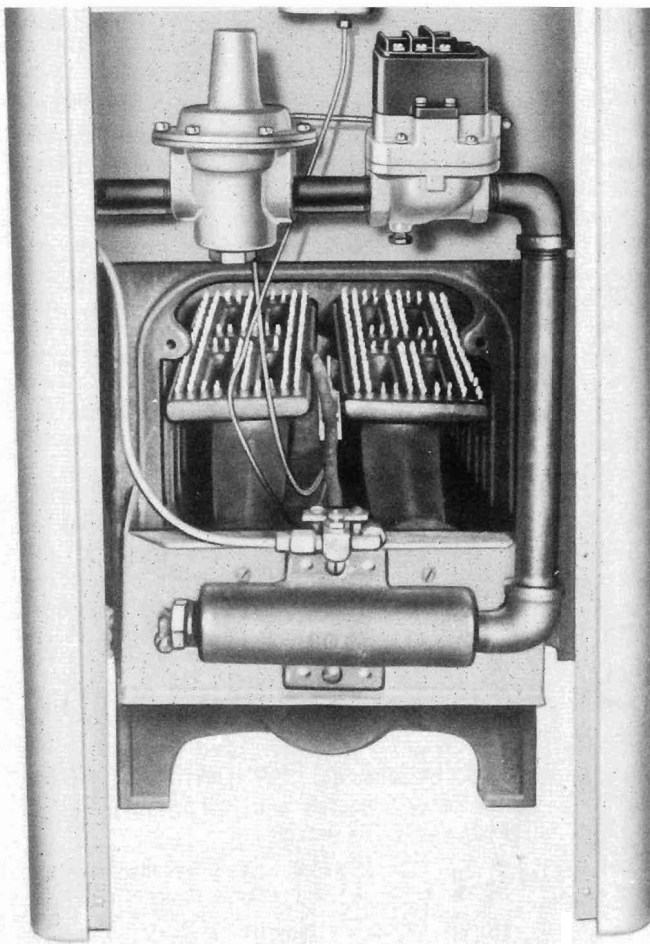

Figure 7. Burner Assembly Installed
17. Then mount complete burner assembly into boiler, sliding burner bracket over the 6" studs. Fasten in place with 1/4"-20 nuts making certain that burners are level and in alignment (see figure 7).